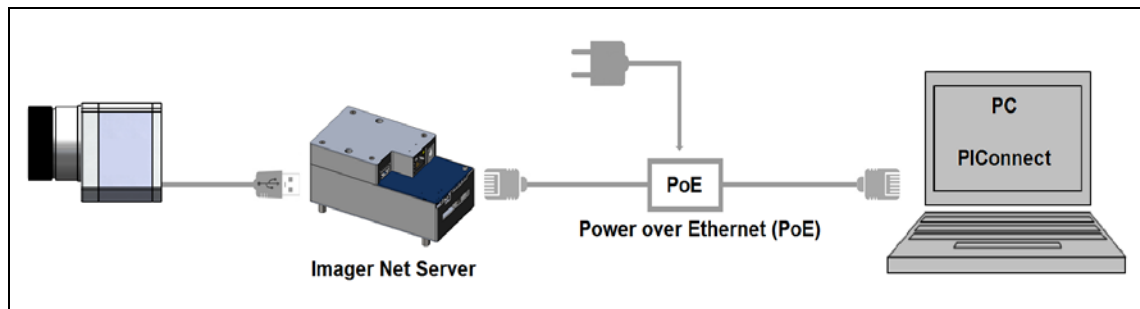

Figure 30: Ethernet direct connection (point-to-point connection)/ NetBox LW via PoE injector
4. Using a PoE injector the power supply for the NetBox is not needed. In this case the PoE injector must be connected as shown in **Figure 30**. With orderly function L1, L2 and L5 are illuminating.